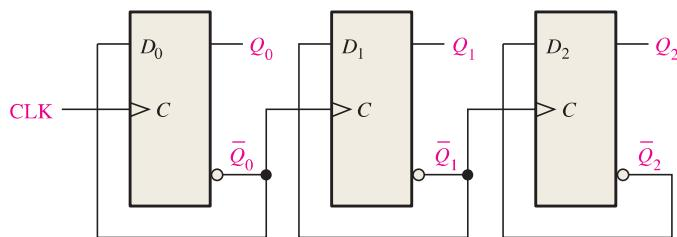

FIGURE 9–66
4. For the ripple counter in Figure 9–66, show the complete timing diagram for sixteen clock pulses. Show the clock, Q_0 , Q_1 , and Q_2 waveforms.